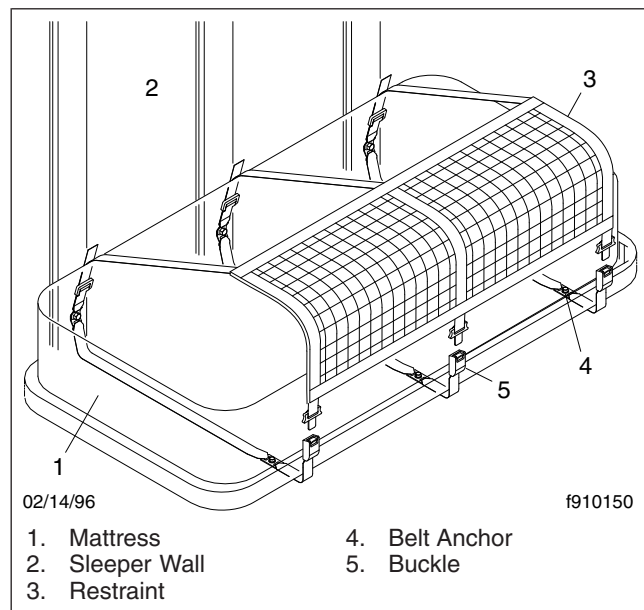

Fig. 7.13, Bunk Restraint
1. Starting at the foot of the bunk, pull the link end of the belt up far enough to engage the buckle. See **Fig. 7.13**.